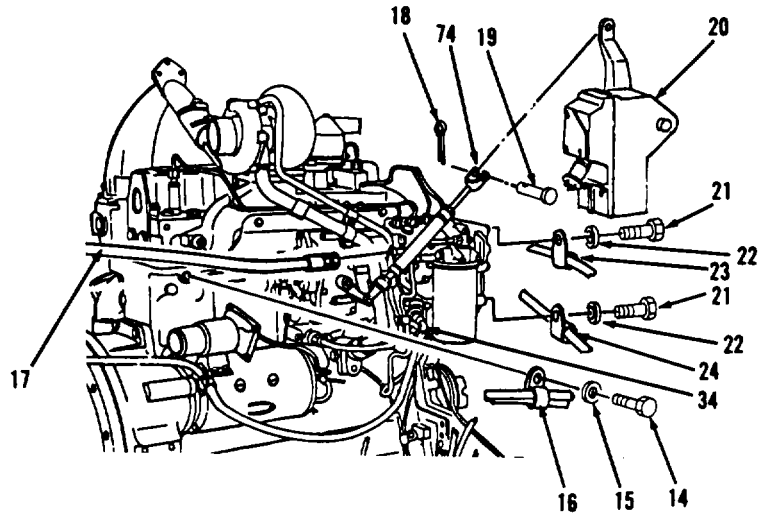

Figure 3-5.
10. Remove bolt (14), washer (15) and clip (16, Figure 3-5).